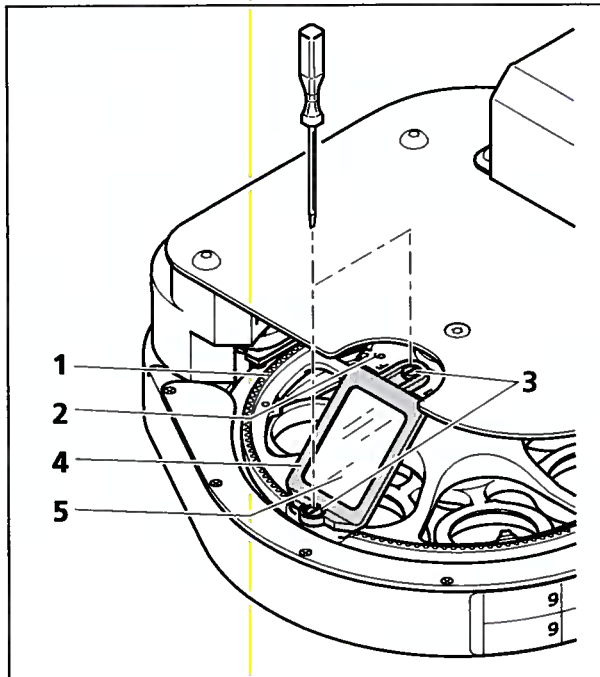

Fig. 6-18 Removing the beam splitter
- Turn the unit so that the beam splitter wheel (Fig. 6-18/1) is at the top.
- Turn the beam splitter wheel carefully until it is in the desired position below the installation opening (Fig. 6-18/2).
- Remove the two screws (Fig. 6-18/3) on the mounting frame (Fig. 6-18/4) using an Allen key 1.5 mm.
- Remove the mounting frame and carefully take out the existing beam splitter (Fig. 6-18/5) if applicable.
The reflective layer of the beam splitter should point upward when in its mounting position, i.e. when the unit is turned as seen in Fig. 6-18. For further information see Section 6.6.1.3 and Section 6.6.1.4.